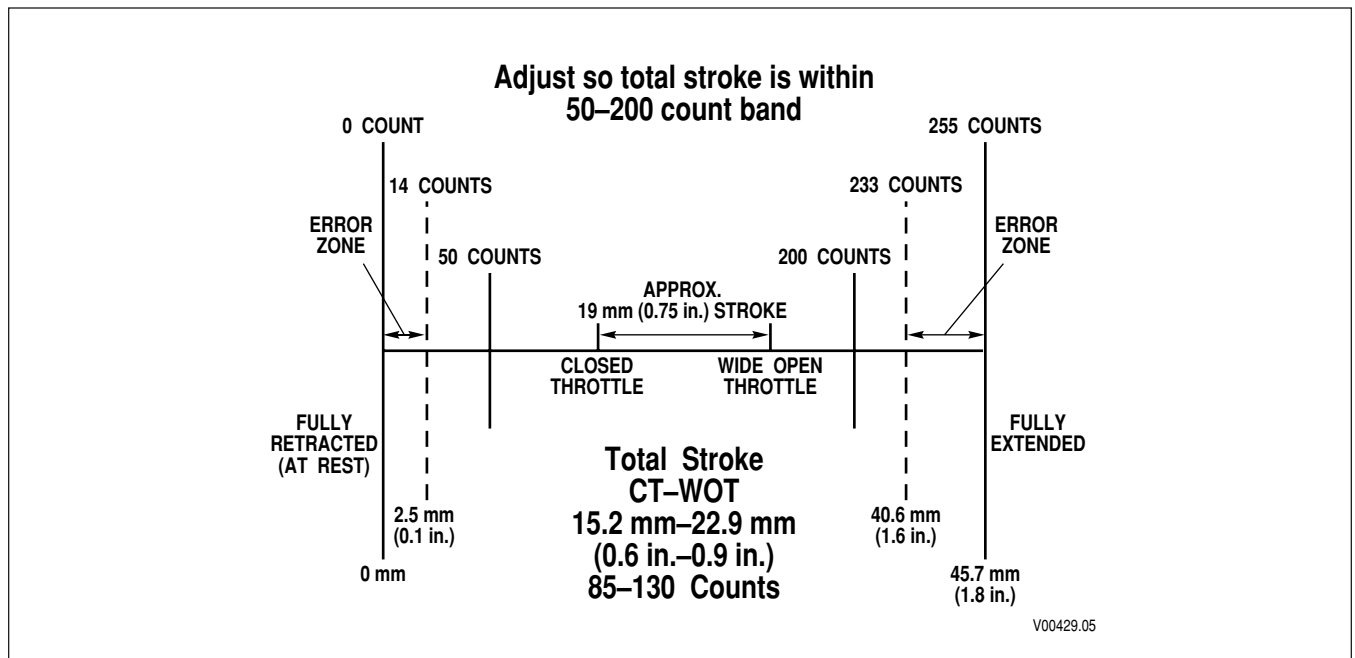

Figure F-2. Throttle Position Determination Diagram
2. Each position gives a different voltage. The ECU then converts the voltage to counts. Each count corresponds to approximately 0.179 mm (0.007 inch) of throttle sensor movement. Figure F-2 diagrams the counts and throttle movement relationship.